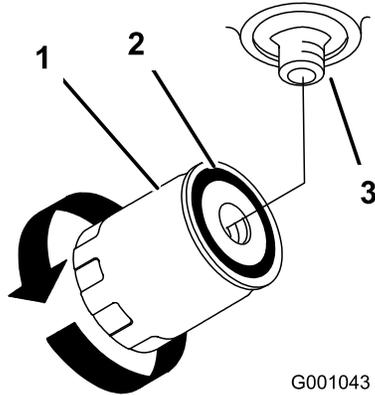

Figure 69
3. Apply a thin coat hydro fluid to the rubber gasket on the replacement filter (Figure 69).
7. Fill the hydraulic tank with hydraulic fluid until the fluid overflows the filter and then turn the oil filter clockwise until the rubber gasket contacts the filter adapter, then tighten the filter an additional 1/2 turn (Figure 69).